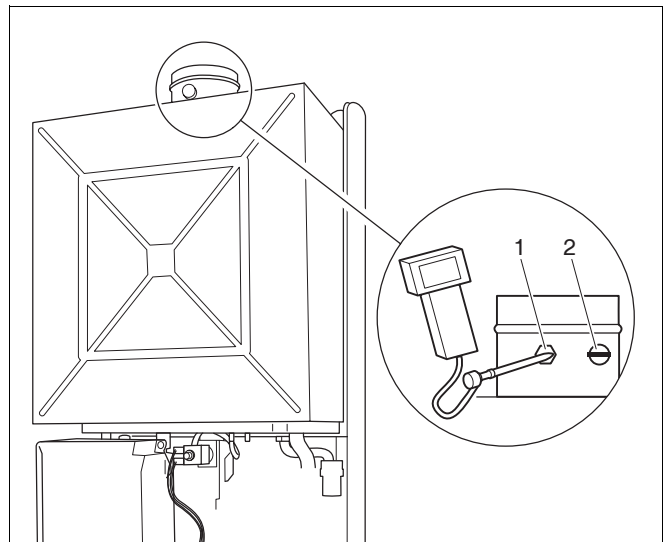

Fig. 38 Measuring points on exhaust conduit
- Unscrew the corresponding sealing closure (fig. 38) on the connection adapter for the combustion-air/flue-gas system and replace it once the measuring operation in question has been carried out.
Key to Fig. 38: